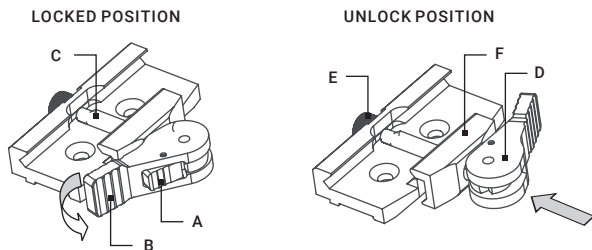

FIGURE 2-2. MOUNT. UNDERSIDE VIEW
3. Unlock the clamping device of the Comanche-22 mount by pushing down on the lever holder (A, see Figure 2-2) and unlocking the cam lever (B).
4. Install the Comanche-22 on the Picatinny/ Weaver rail in front of the day scope so that the stop (C) slides into one of the rail's transverse slots. The light suppressor should cover the day scope's objective lens.
5. Affix the Comanche-22 to the rail by locking the cam lever (B).
To adjust the mount's clamping device, do the following (refer to Figure 2-2):